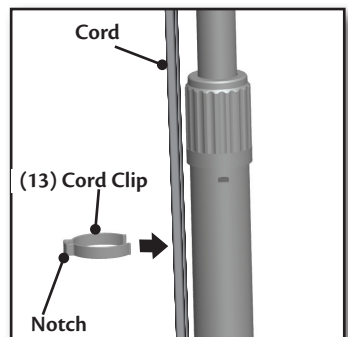

Figure 18.
5. Straighten the Cord from the Motor along the Telescoping Pole and Snap the Cord Clip over the cord onto the Pole so the cord rests in the notch on the Clip. Figure 18.